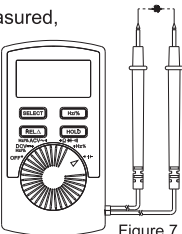

Figure 7
6. Measuring Capacitance(See Figure 7)